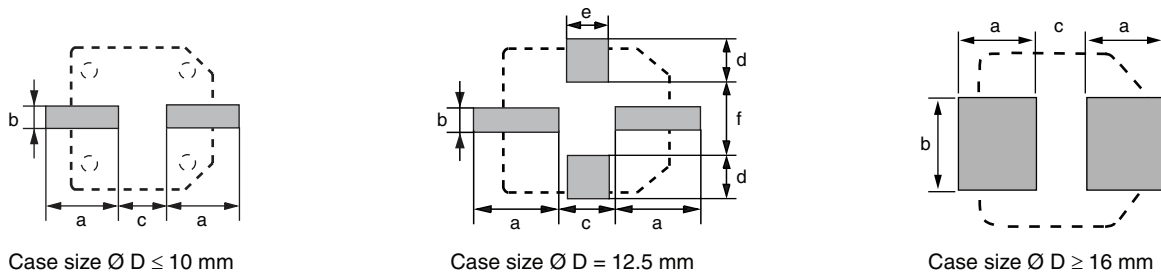

Fig. 4 - Recommended soldering pad dimensions
For maximum conditions refer to Fig. 4 or Fig. 5.
- Standard reflow soldering profile, see Fig. 4 and Table 4